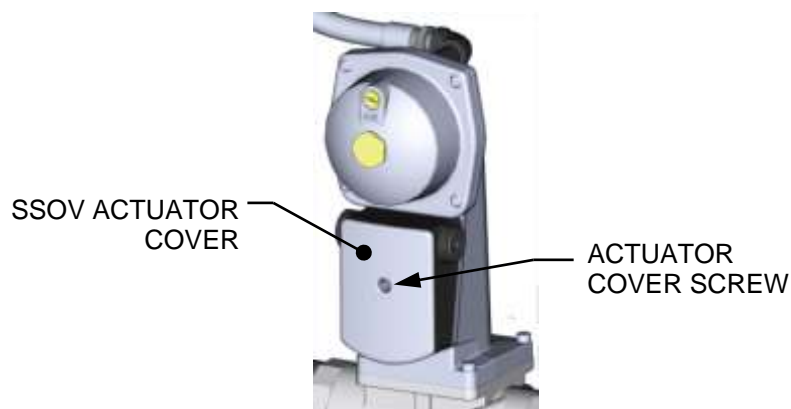

Figure 5-7: SSOV Actuator Cover Location
The SSOV, shown in Figure 5-7, contains the **Proof of Closure** switch. The **Proof of Closure** switch circuit is checked as follows:
3. Remove the cover from the SSOV by loosening the screw shown in Figure 5-7. Lift off the cover to access the terminal wiring connections.